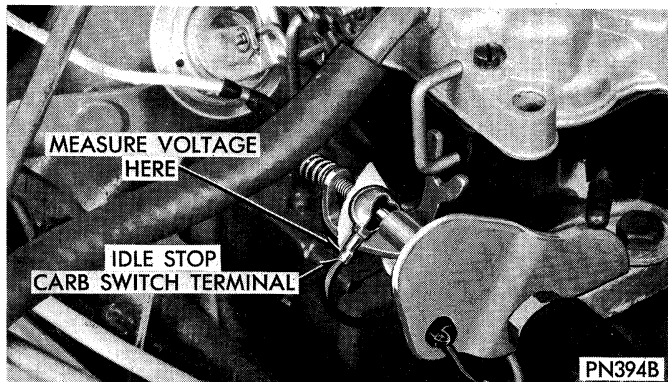

Fig. 8—Power Check
(4) Connect negative lead of a voltmeter to a good engine ground.
(5) Turn ignition switch to "Run" position and measure voltage at carb switch terminal (Fig. 8). If voltage is greater than 5 volts but less than 10 volts proceed to Step 7. If voltage is greater than 10 volts check to insure continuity between terminal 10 of dual connector and ground (Fig. 11).